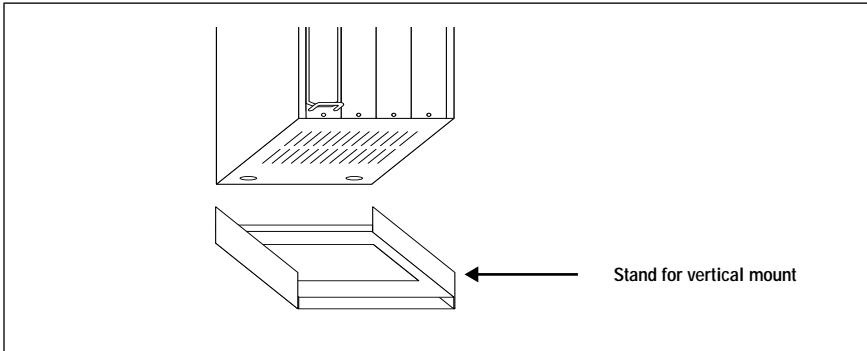

Figure 10: Vertical Mount Installation
- Place the left rear corner of the chassis edge first in the stand (Figure 10).